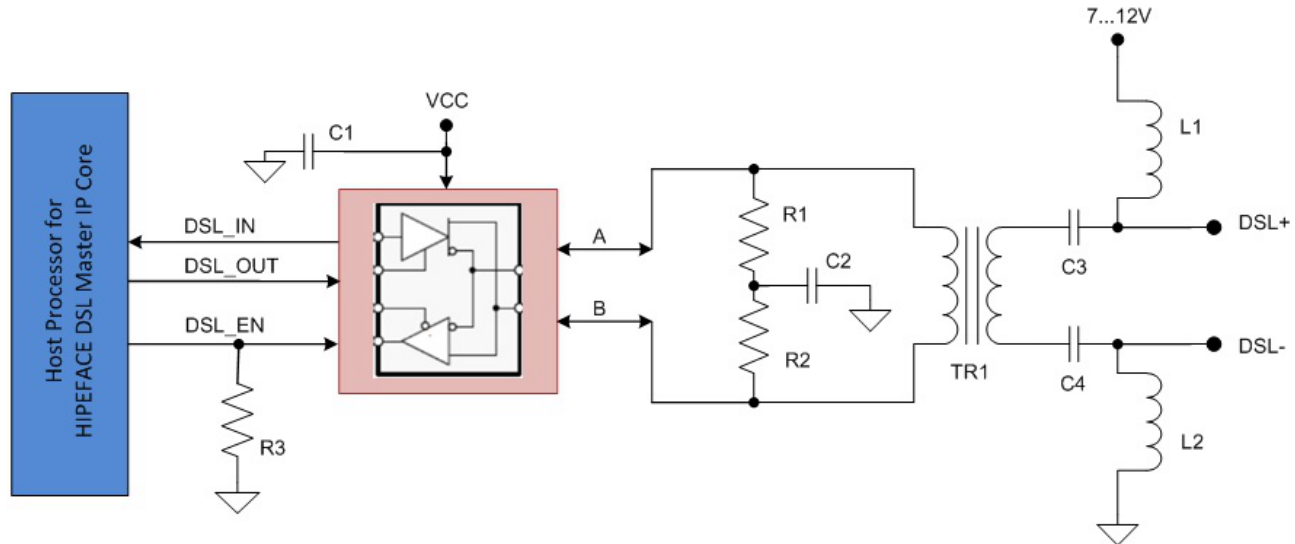

Figure 2. Two-wire Interface Circuit with Integrated Motor Cable
- A **two-wire** interface/integrated motor cable (see Figure 2). When using a two-wire cable integrated in the motor cable (where communication occurs over the supply lines), you will need a transformer to increase the common-mode rejection ratio. The supply voltage and GND are coupled onto the RS-485 differential signals through inductors L1 and L2, and DC-decoupled to the transformer through capacitors C3 and C4. The differential RS-485 signals after the transformer are AC-coupled to the supply lines through properly designed LC filters.